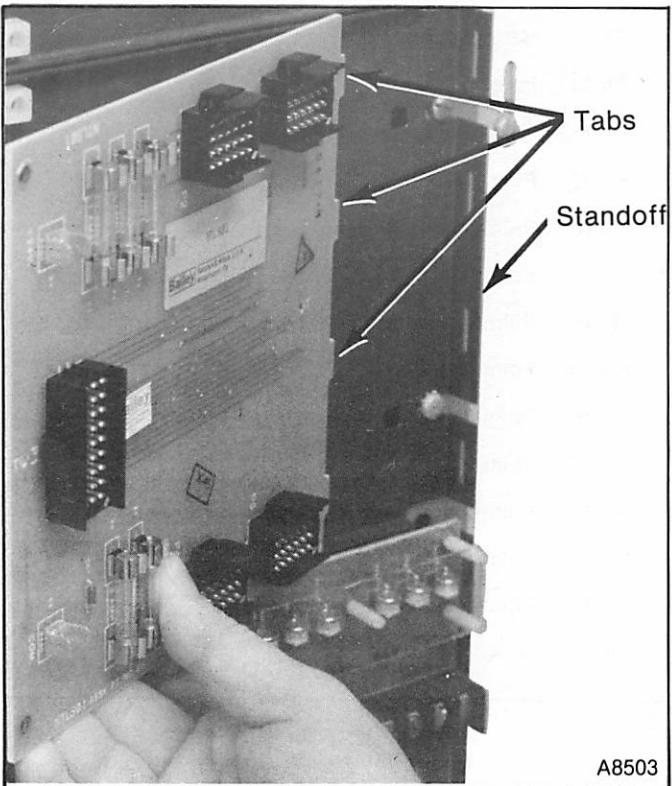

FIGURE 20 — Sliding Termination Unit into Field Termination Panel.
d. Slide edge (that is, "tabs") of TDI01 into slots ("stand-off") on field termination panel (see Figure 20).